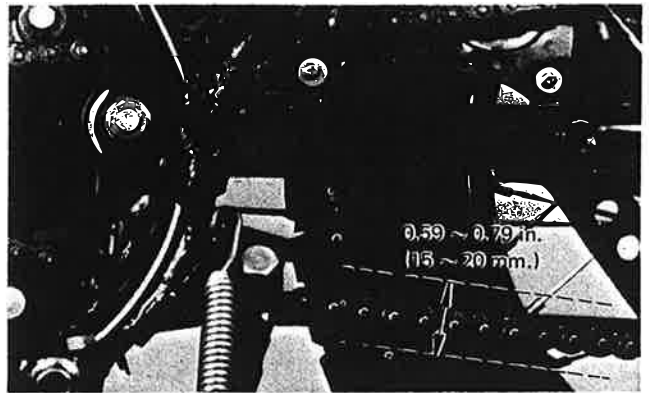

Fig. 2-4-8
- a. Remove rear axle cotter pin (4).
- b. Loosen rear axle securing nut (3).
- c. With rider in position on machine both wheels on ground, set axle adjusters until there is 0.59 to 0.79 in. (15 to 20 mm.) freeplay in the drive chain at the bottom of the chain at a point midway between the drive and driven axles. (Fig. 2-4-8)
- d. Turn adjusters (chain puller bolts) both left and right, until axle is situated in same positions as shown by position marks (1) on swing arm axle tabs.
- e. Tighten the rear axle securing nut (3).